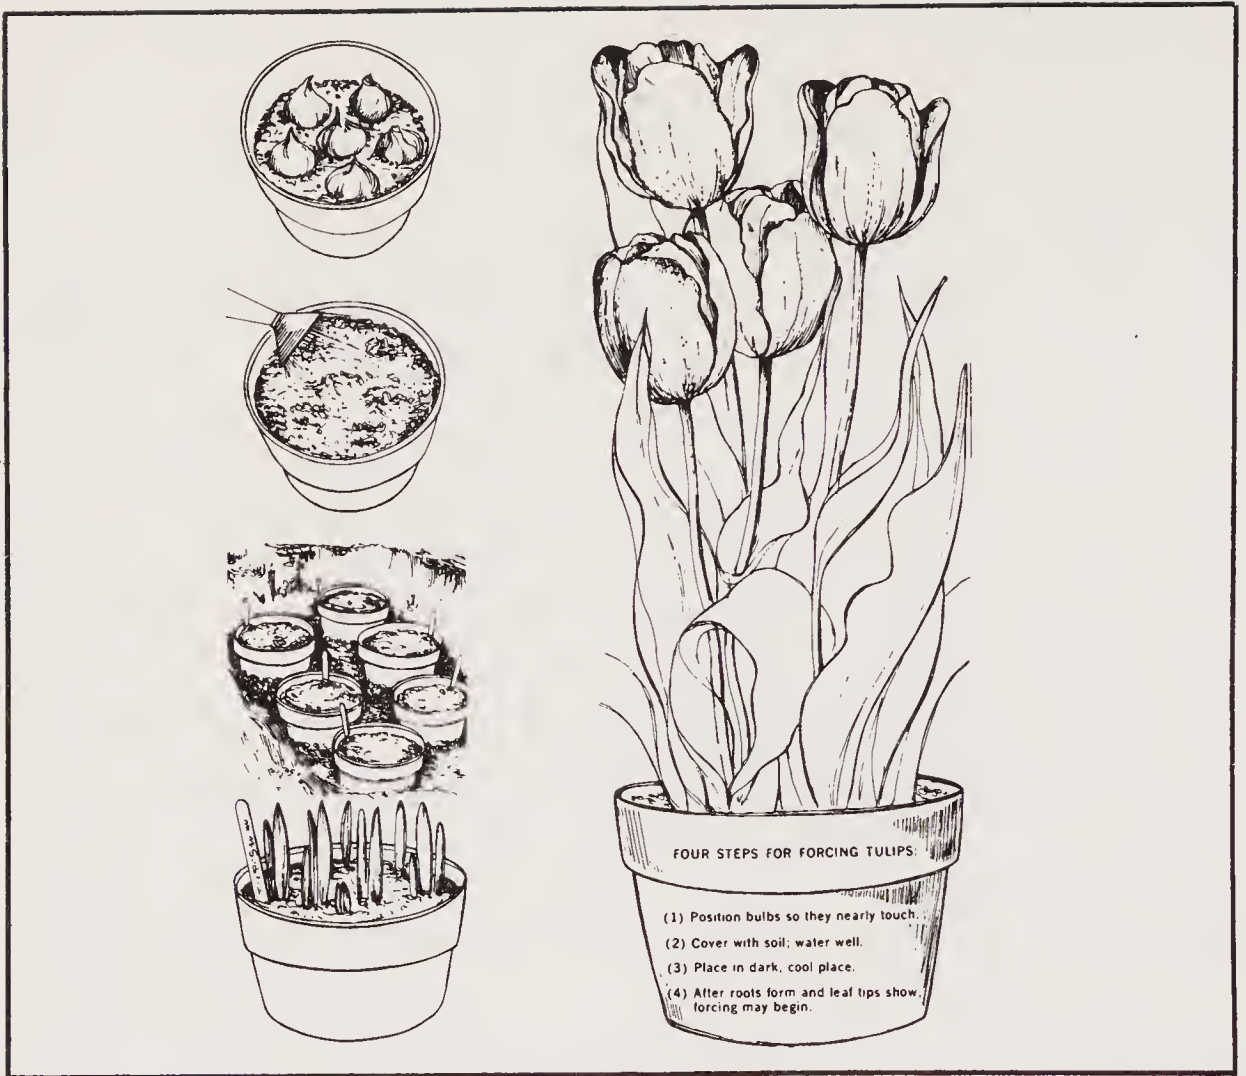

Fig. 4-33. Forcing bulbs (courtesy of Kathleen Bourke, Lord & Burnham).
**Forcing Bulbs.** This is “coaxing” plants into bloom out of season. Tulips, daffodil, crocus, and hyacinths are especially popular in warm winter climates where the show place is the greenhouse (Fig. 4-33).